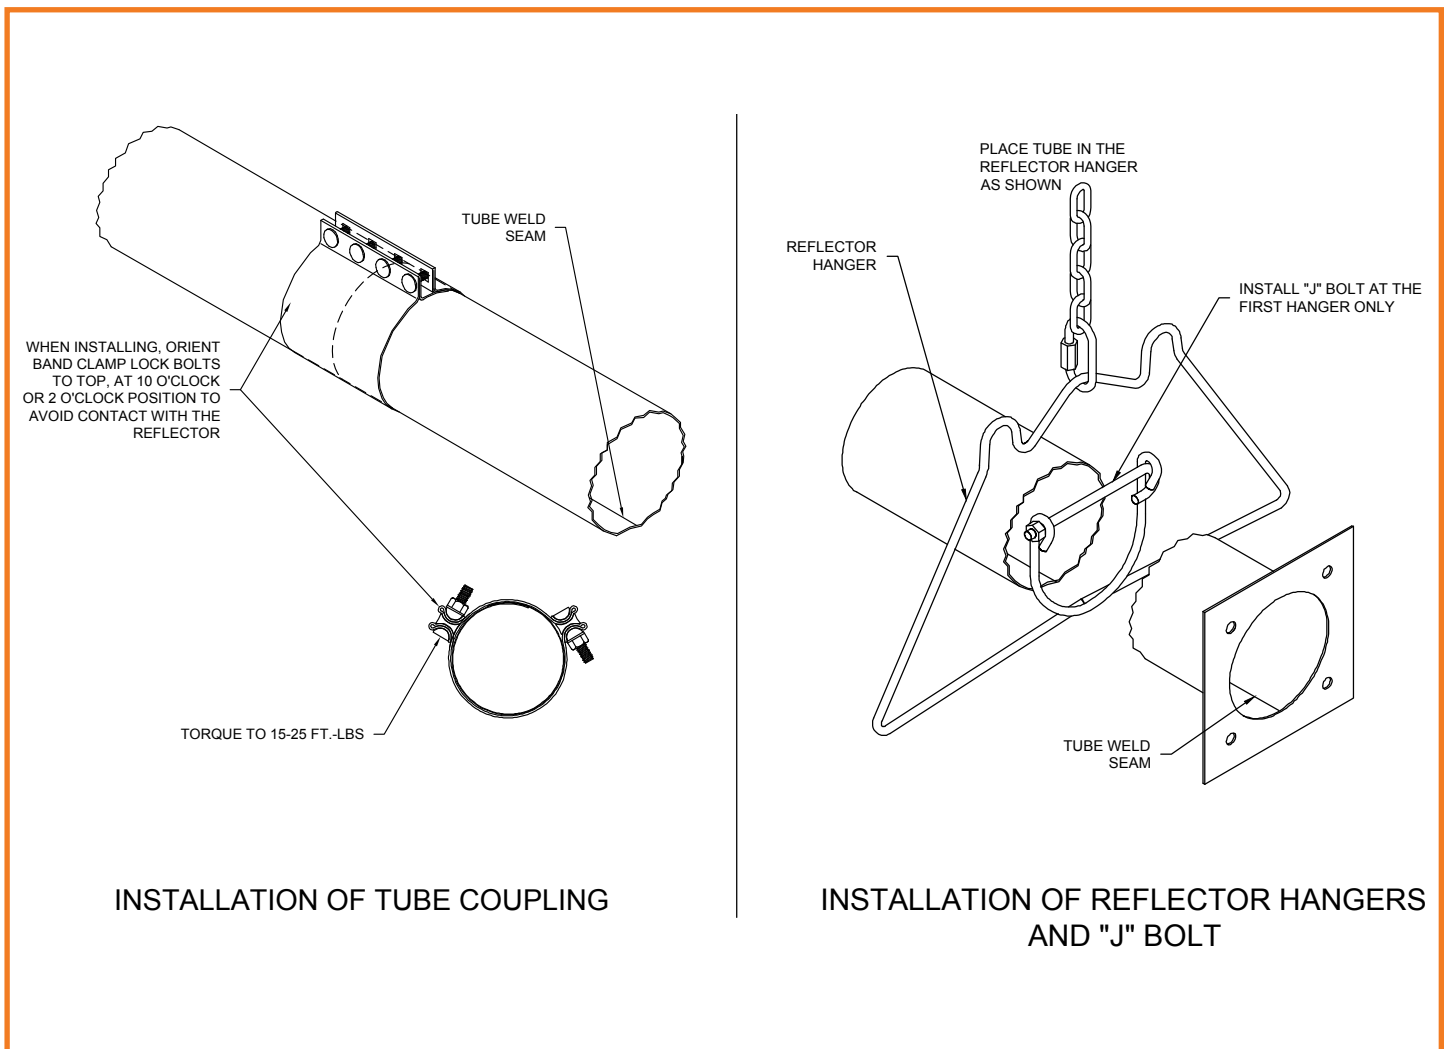

Figure 11: “J” Bolt and Coupling Installations
- Tighten the cradle loops of the first hanger with the “J-Bolt” found in the burner box, to snugly hold the combustion tube from rotating see Figure 11.
- Note:** In order to obtain smoothly sealed coupling liners, tighten each of the coupling bands progressively and alternately. Tightening one band completely before the other may result in an undesirable wrinkle in the liner (refer to Figure 11).